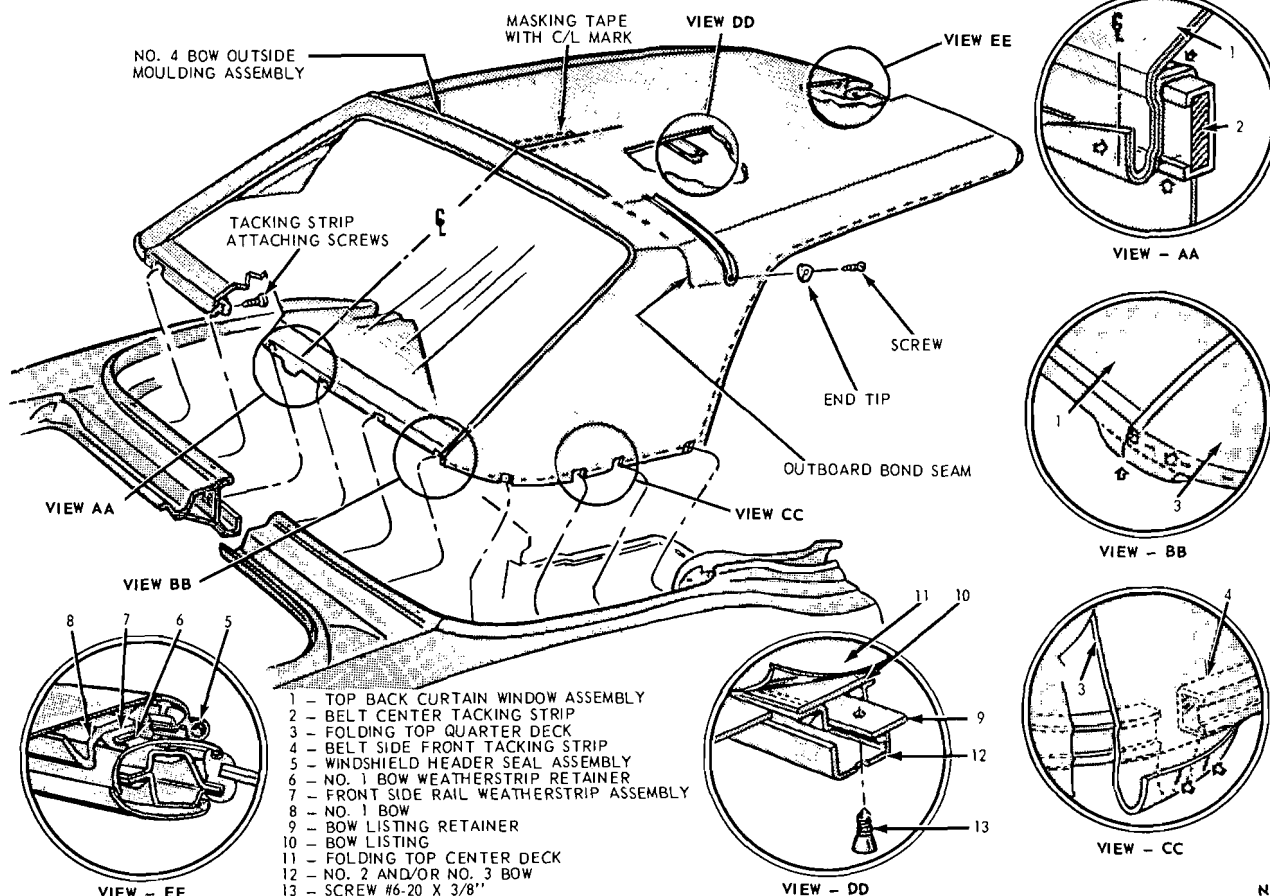

FIG. 13—Top Trim Assembly Attachments—Mustang
6. Remove the front side weatherstrip attaching nuts from both front side rails and remove the weatherstrip assembly (Fig. 13).
7. Remove the windshield header seal assembly, and the top material from the No. 1 bow (Fig. 13).
13. Remove the No. 2 and No. 3 bow listing retainer screws and remove both retainers from the listings (Fig. 13).
14. Raise the compartment trim up sufficiently to remove all of the tacking strip attaching screws (Fig. 13).
15. Remove the No. 4 bow outside moulding end tips, moulding and moulding retainer (Fig. 13).
a. Locate the center punch mark on the belt center tacking strip retainer (Fig. 13, View A-A). Transpose this center mark to the adjacent
b. Mark the rear curtain along the lower edge of the belt center tacking strip (Fig. 13, View BB and CC).
c. Mark the belt center tacking strip to indicate the rear window opening at both sides (Fig. 13, View BB).
d. Mark the top deck quarters along the lower edge and at the ends of each belt side front tacking strip (Fig. 13, View CC).
1. Lay the new rear curtain window assembly on a clean bench with the interior surface up. Measure the width and mark the center of the back window at the top, above the zipper, and at the bottom, at the tacking strip area (Fig. 13).
9. Align the top deck quarter to the belt center tacking strip, maintain proper rear curtain opening and retain it with staples (Fig. 13, View BB).
14. Measure and mark the center between the bond seams of the top center deck at the No. 4 bow on the underside of the material. Install a 6-inch piece of masking tape on the top material inner surface at the centerline of the No. 4 bow. Mark the centerline along the entire length of tape. (Refer to Fig. 13.)
16. Center the top material on the No. 4 bow and pull it forward sufficiently to center the outboard bond seam on the No. 4 bow (Fig. 13). Secure the top material to the No. 4 bow with staples.
17. Install the two retainers in the No. 2 and No. 3 bow listings (Fig. 13).
19. Pull the top trim material forward over the No. 1 bow until the No. 2 and No. 3 bow listings (Fig. 13) are centered over their respective bows. While maintaining tension on
24. Position the windshield header seal assembly (Fig. 13) and secure the seal and top material with staples. Trim off excess top material.
34. Install the No. 4 bow outside moulding retainer, insert the moulding and install the two end tips (Fig. 13).